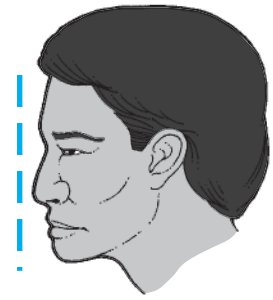

FIGURE 8 | Straight profile.
- *Straight profiles* tend to be the most balanced and can usually wear any hairstyle successfully (Figure 8).